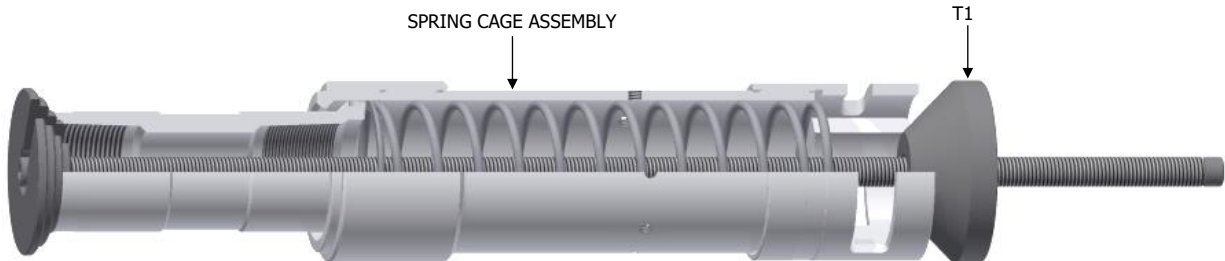

Fig. 4
K-1.1.5) Compress compression spring (4) with assembly tool (T1) (Fig. 4).